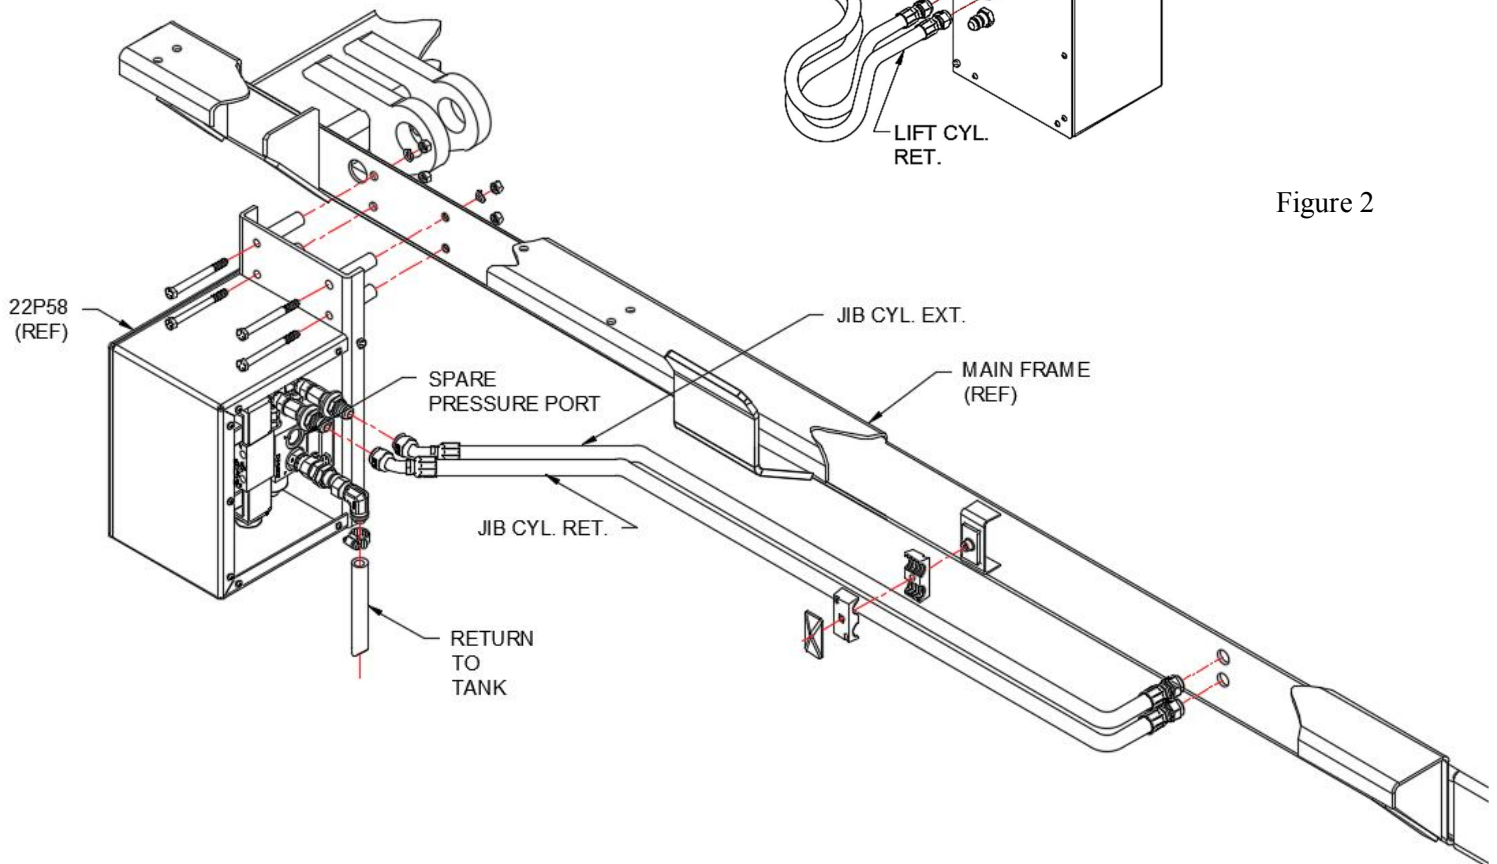

Figure 1
- 2.) Mount the 22P58 EHV to the hoist mainframe and attach all hoses, hose clamp assemblies and fittings as shown on drawing 91H22, 91H23 & 91H25 (also see Figures 1 & 2).